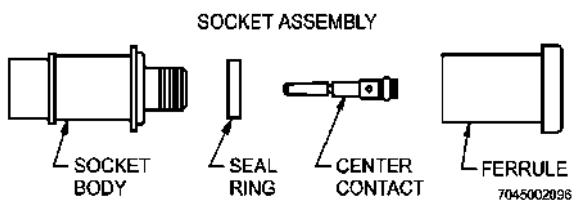

Figure 10-70 Contact Assembly Using Seal Ring
- (2) Insert crimped centre contact into contact body until cable dielectric bottoms against dielectric inside contact body. Braid should fit over braid support section of contact. (See Figure 10-70)